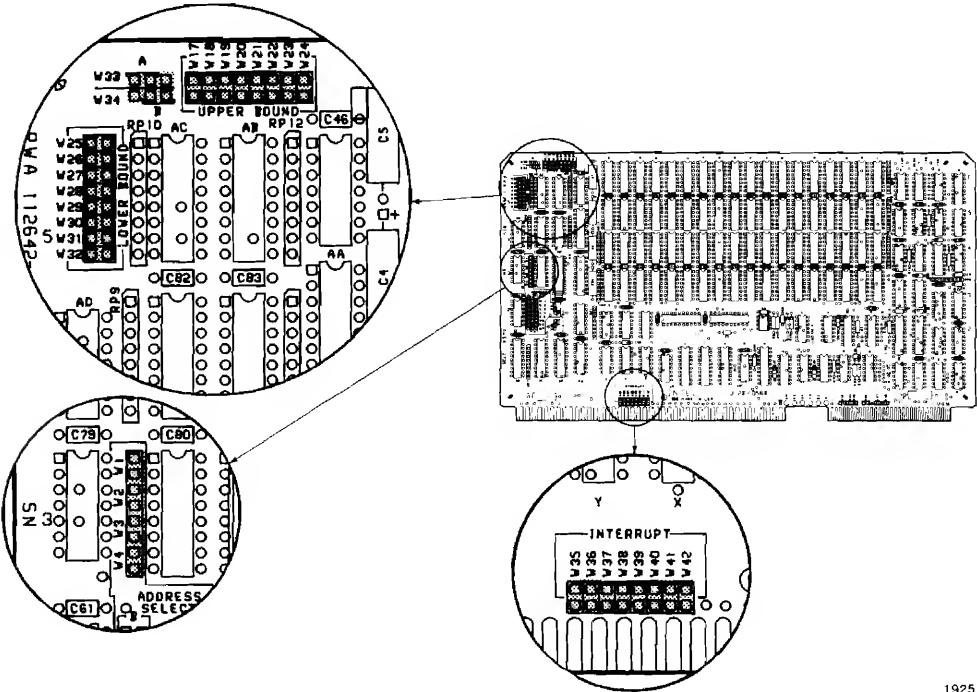

Figure B-5 Jumper Locations on the iSBC® 012B Memory Board
4. On the iSBC 012B memory board, set the interrupt jumpers as follows (OUT indicates to remove the jumpers). The jumper locations are shown in Figure B-5.
5. Set the starting address jumpers to 448K (070000H) on the iSBC 012B memory board. The jumper settings are shown in Table B-1; their locations are shown in Figure B-5.
6. Although the iSBC 012B memory board contains 512K bytes of memory, it must be strapped short by 64K bytes. Set the jumpers that define the ending address to 896K-1 (0DFFFFH). The jumpers are listed in Table B-2; their locations are shown in Figure B-5.